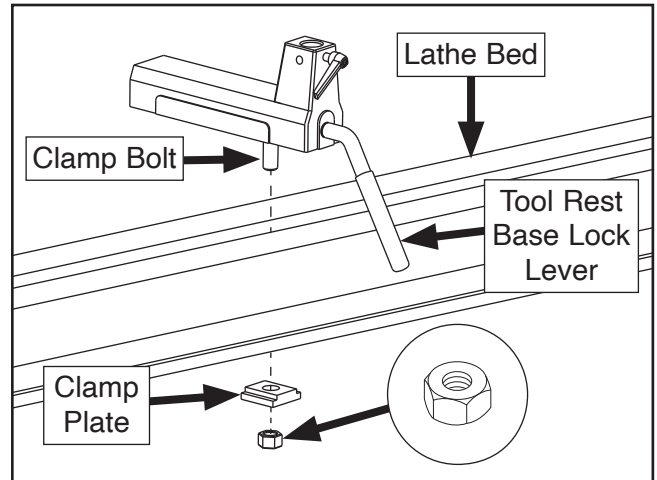

Figure 7. Inserting clamp bolt through lathe bed to secure tool rest base.
9. Place tool rest base on lathe bed between headstock and tailstock with clamp bolt inserted through bed (see **Figure 7**). Tool rest base lock lever must point toward front of lathe (same side as power switch).
10. Install clamp plate and hex nut removed in **Step 8** on clamp bolt and hand-tighten (see **Figure 7**). Clamp plate must be aligned with lathe bed to fit together tightly.
11. Rotate tool rest base lock lever until it feels tight to secure tool rest base on lathe bed (see **Figure 7**).